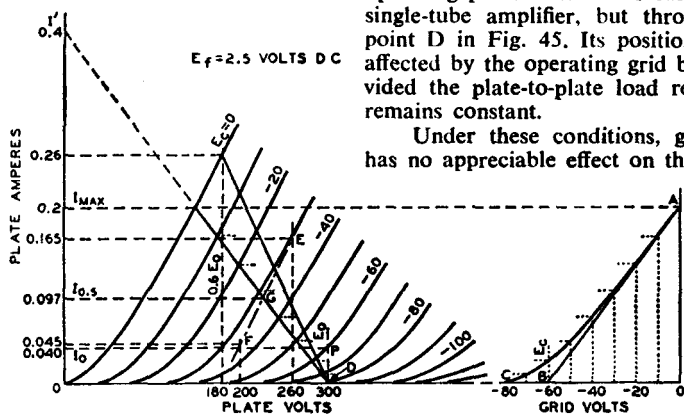

Fig. 45—Graphic calculations for class AB₁ amplifier using a power triode.
In class AB₁ push-pull amplifier service using triodes, the operating conditions may be determined graphically by means of the plate family if E_0 , the desired operating plate voltage, is given. In this service, the dynamic load line does not pass through the operating point P as in the case of the single-tube amplifier, but through the point D in Fig. 45. Its position is not affected by the operating grid bias provided the plate-to-plate load resistance remains constant.
In general, for any load line through point D, Fig. 45, the plate-to-plate load resistance in ohms of a push-pull amplifier is $R_{pp} = 4E_o/I'$, where I' is the plate-current value in amperes at which the load line as projected intersects the plate-current axis, and E_o is in volts. This formula is another form of the one given under push-pull class A amplifiers, $R_{pp} = 4(E_o - 0.6E_o)/I_{max}$, but is more general. Power output = $(I_{max}/\sqrt{2})^2 \times R_{pp}/4$, where I_{max} is the peak plate current at zero grid volts for the load chosen. This formula simplified is $(I_{max})^2 \times R_{pp}/8$. The maximum-signal average plate current is $2I_{max}/\pi$ or $0.636 I_{max}$; the maximum-signal average power input is $0.636 I_{max} \times E_o$.
Example: Fig. 45 illustrates the application of this method to a pair of power triodes operated at $E_o = 300$ volts. Each tube has a plate-dissipation rating of 15 watts. The method is to
the plate family and the load line. Fig. 46 is a curve of instantaneous values of plate current and dc grid-bias voltages taken from Fig. 45. Values of grid bias are read from each of the grid-bias curves of Fig. 45 along the load line and are transferred to Fig. 46 to produce the curved line from A to C. A tangent to this curve, starting at A, is drawn to intersect the grid-voltage abscissa. The point of intersection, B, is the operating grid bias for fixed-bias operation. In the example, the bias is -60 volts. Refer back to the plate family at the operating conditions of plate volts = 300 and grid bias = -60 volts; the zero-signal plate current per tube is seen to be 0.04 ampere.
As in the case of the push-pull class A amplifier, the second-harmonic distortion in a class AB₁ amplifier using triodes is very small and is largely canceled by virtue of the push-pull connection. Third-harmonic distortion, however, which may be larger than permissible, can be found by means of composite characteristic curves. A complete family of curves can be plotted, but for the present purpose only the one corresponding to a grid bias of one-half the peak grid-voltage swing is needed. In the example, the peak grid voltage per tube is 60 volts, and the half value is 30 volts. The composite curve, since it is nearly a straight line, can be constructed with only two points (see Fig. 45). These two points are obtained from deviations above and below the operating grid and plate voltages.
These steps provide points at 260 volts and 0.165 ampere (E), and at 200 volts and 0.045 ampere (F). A straight line through these points is the composite curve for a bias of -30 volts, shown as a long-short dash line in Fig. 45. At the intersection of the composite curve and the load line, G, the instantaneous composite plate current at the point of one-half the peak signal swing is determined. This current value, designated $I_{0.5}$ and the peak plate current, I_{max} , are used in the following formula to find the peak value of the third-harmonic component of plate current.